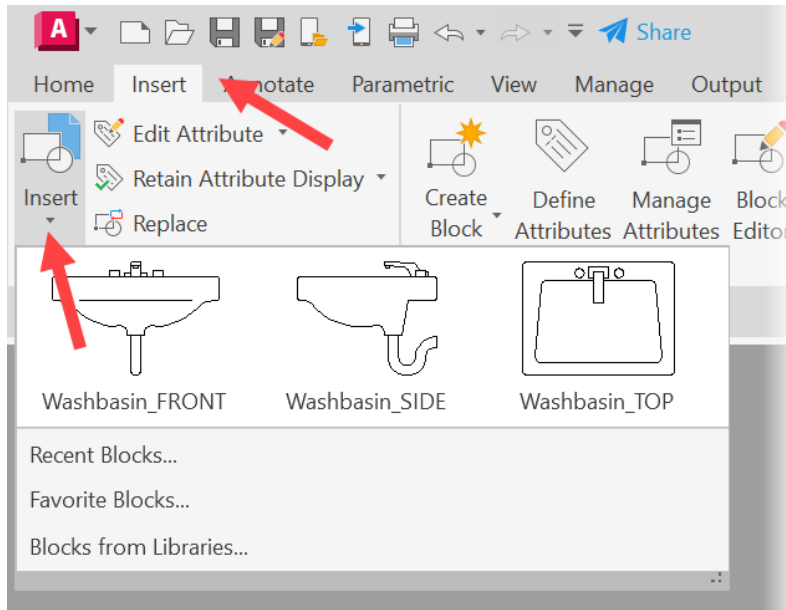

Figure 12.17: The Insert drop-down menu on the Insert tab
4. You will now be in **Block Editor**, ready to start inserting the regular blocks you created in the previous section. Use the **Insert** tab on the ribbon to locate the **Insert** dropdown (far left on the ribbon). Click **Insert**, and the drop-down menu will appear, as shown in *Figure 12.17*.